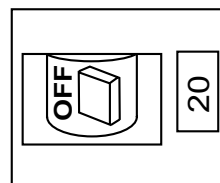

Figure 21. Main Circuit Breaker (OFF)
- Place main circuit breaker (Figure 21) in the **OFF** position.